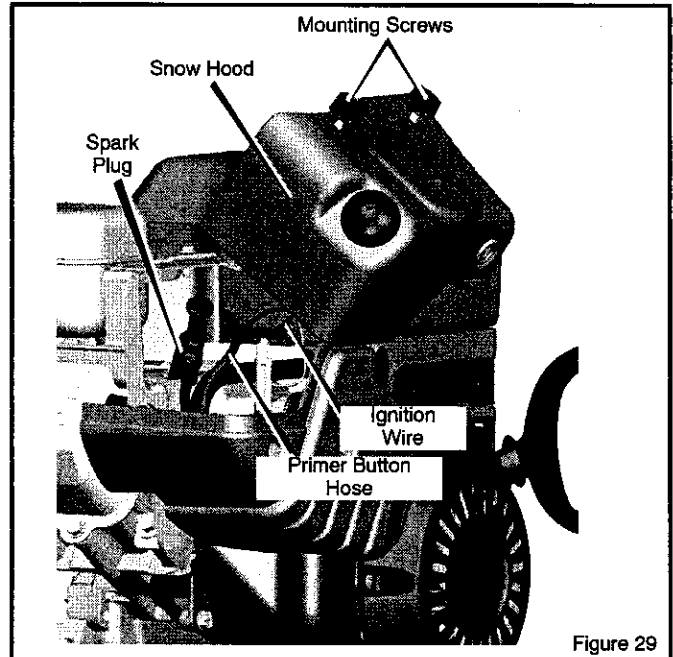

Figure 29
3. Remove the **mounting screws** (see Figure 29).
7. Mount the snow hood to the engine and secure with the mounting screws (see Figure 29).